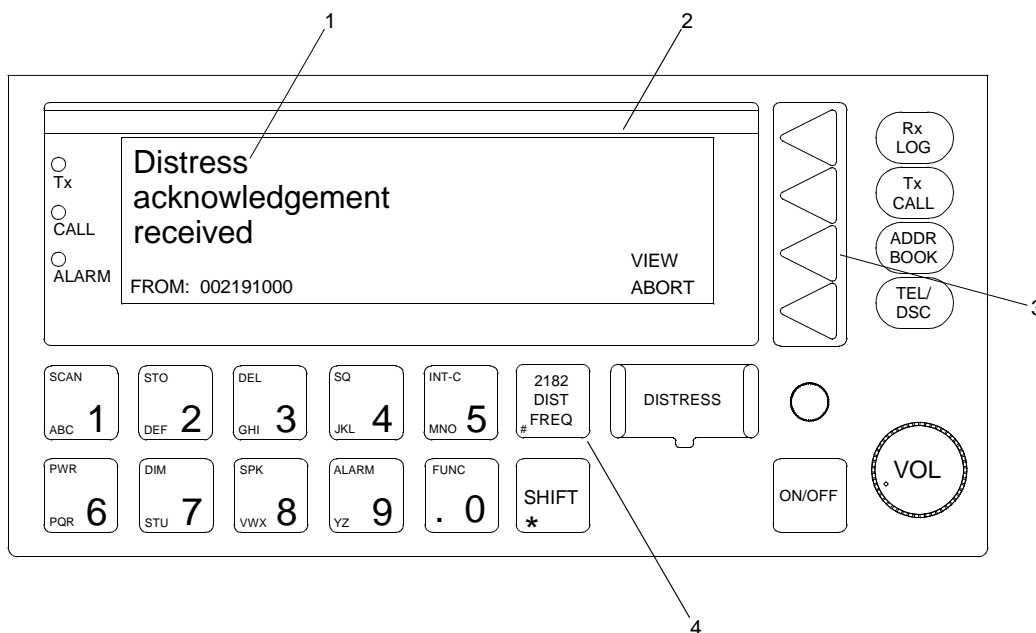

Figure 1. Distress Acknowledgement Received Message
When an acknowledgement is received, the Distress acknowledgement received message (figure 1, item 1) appears in the LCD display (figure 1, item 2) and the distress call will automatically be cancelled.
1. Verify the Distress acknowledgement received message (figure 1, item 1) appears in the LCD display (figure 1, item 2).
1. Press the soft key (figure 1, item 3) to select VIEW and read the contents of the call.
2. Press the 2182 key (figure 1, item 4).